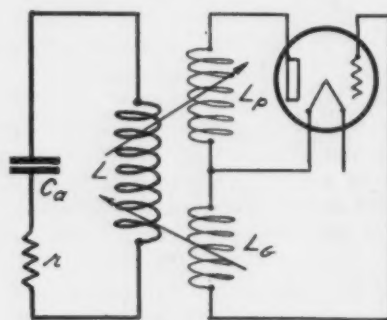
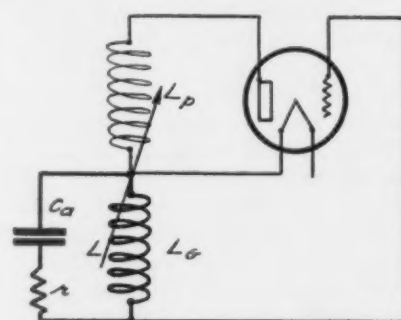
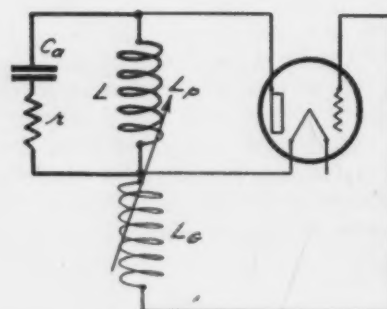

FIG. 1 MEISSNER
FIG. 2 COUPLED PLATE
FIG. 3 COUPLED GRID
**Coupled Plate Circuit.** Fig. 2 shows a generating circuit in which the input or grid circuit is directly coupled to the plate circuit. The plate circuit, in turn, is inductively coupled to the output circuit as in Fig. 1. The strongest oscillations will be produced when the mutual
**Coupled Grid Circuit.** In contrast to the coupled plate circuit of Fig. 2, a coupled grid type of generating circuit is shown in Fig. 3. This circuit is sometimes termed the "reversed feedback" or "British aircraft" circuit. Because  $L_g$  is exterior to the oscillating circuit and can conveniently be provided with a wide range of adjustment, mechanical and electrical flexibility in circuit ad-
justments are better in this than in the circuit of Fig. 2.
The grid circuit of Fig. 3 is sometimes tuned to the fundamental or second harmonic by placing a small variable capacity across  $L_g$ . Such an arrangement, while adding flexibility and sometimes greater output, lowers the circuit efficiency.